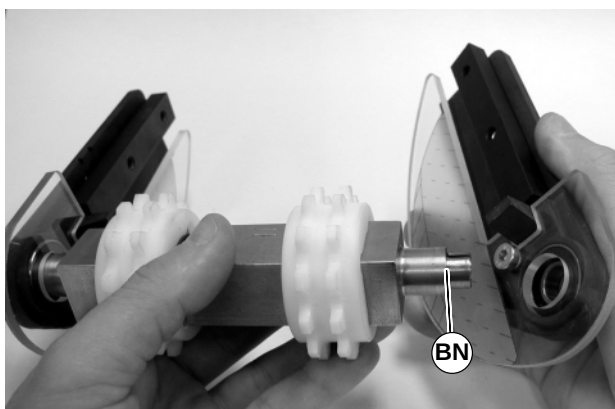

Figure 48
5. With bearing installed in head plate, press bearing on to non-drive shaft (BN of Figure 48) of pulley.